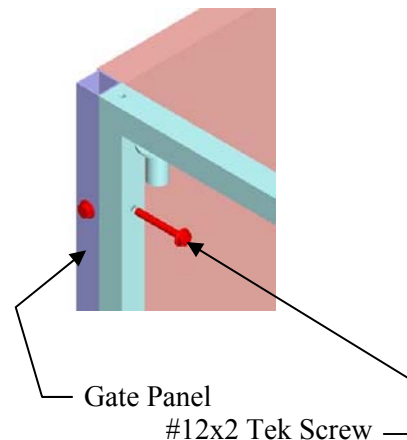

Figure 17
2. Attach the Gate Panel to the King Post using 2" Self-Drilling Tek Screws through the pre-drilled holes. Make sure that Gate Panel and King Post are flush up against each other (**Figure 17**).